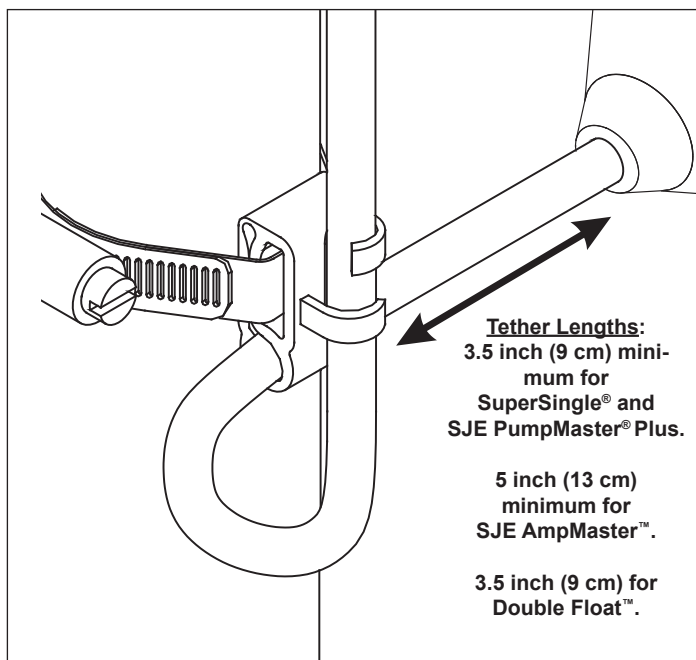

FIGURE 3 - Mounting clamp detail
3. Mount float switches at appropriate levels as illustrated in **Figure 3**. Be sure that floats have free range of motion without touching each other or other equipment in the basin.
4. For mounting clamp installation: place the cord into the clamp as shown in **Figure 3**. Locate the clamp at the desired activation level and secure the clamp to the discharge pipe as shown in **Figure 3**.